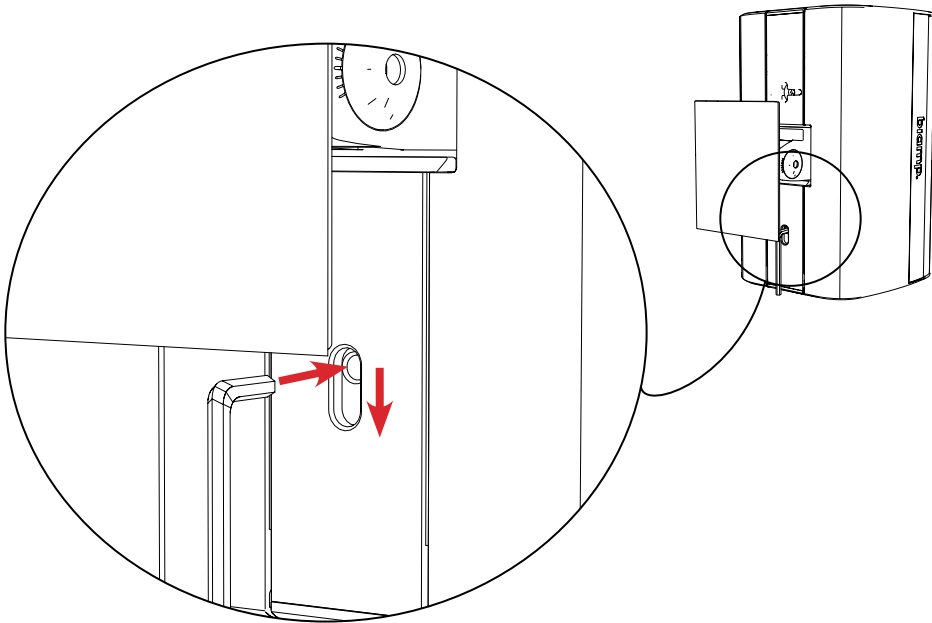

Figure 8a. Insert hex wrench into hole and pull down to release latch
1. Insert a 5mm hex wrench into the hole within the slot in the middle of the label on the rear panel (Figure 8a).